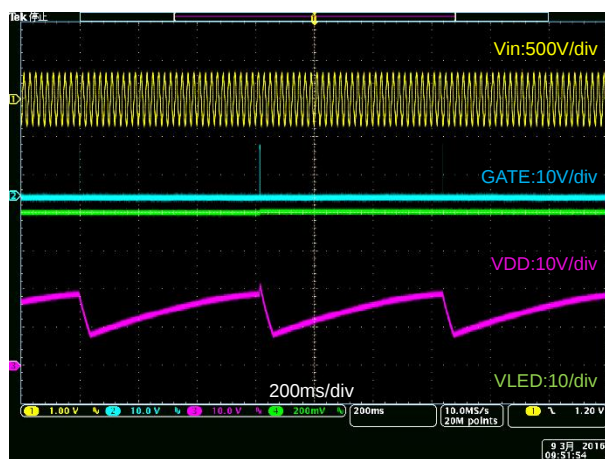

Fig. 12: LED OPEN waveform (Vin=230VAC)
The operations that take place in the LED OPEN state are given in ① to ④ below.(Refer to Fig.12)